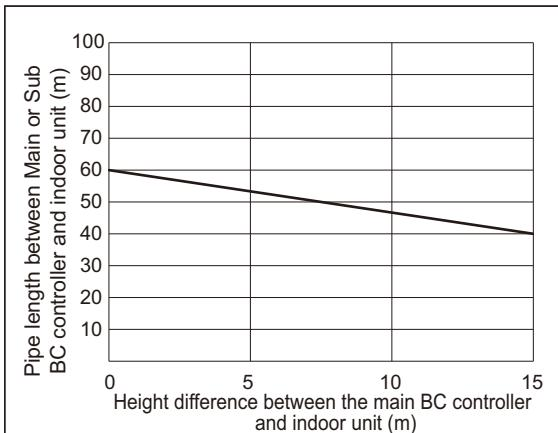

Fig. 2
*2. Details refer to Fig. 2.
*7. When the piping length or the vertical separation exceeds the limit specified in Fig. 2, connect a sub BC to the system.
When using indoor models P/M140 or larger, the restrictions shown in Fig. 2 cannot be exceeded.
- *7. When the piping length or the vertical separation exceeds the limit specified in Fig. 2, connect a sub BC to the system.
- When using indoor models P/M140 or larger, the restrictions shown in Fig. 2 cannot be exceeded.